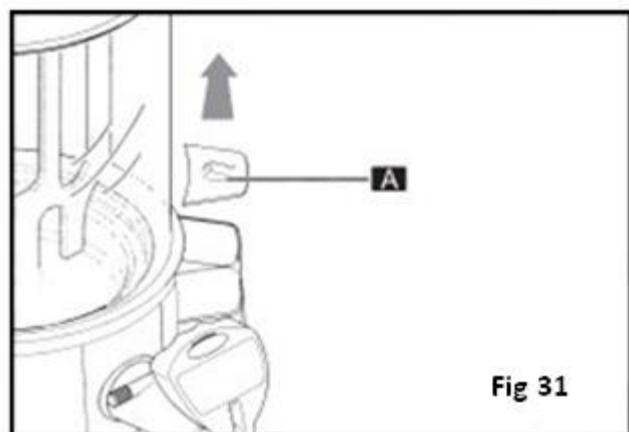

Fig 31
- Remove the cap (A) (Fig 31).